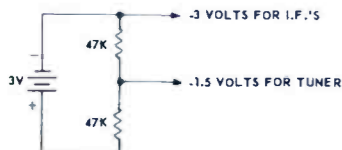

Figure 3 - Bias Supply
3. Apply -3 volts bias to point "A" as shown in Fig. 14. A simple bias source is shown in Fig. 3.